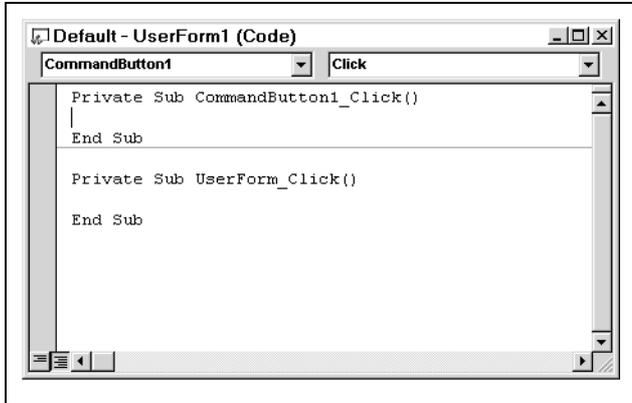

Figure 5 Source Code Window
- Double click on the “Get Cell Names” button to open the source code window (see Figure 5).